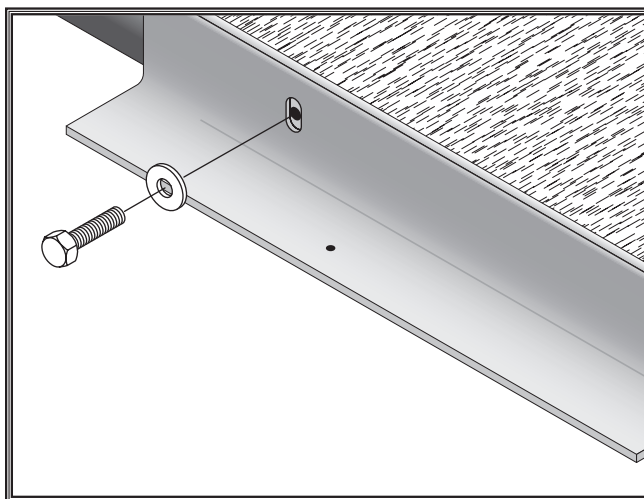

Figure 2. Mounting the front and back rails.
4. Attach the rail using the mounting hardware from the old rail or two 3/8"-16 x 1" or M10-1.5 X 25 hex head bolts and washers. Secure as shown in **Figure 2**.
3. Attach the rail using the mounting hardware from the old rail or two 3/8"-16 x 1" or M10-1.5 X 25 hex head bolts and washers. Secure as shown in **Figure 2**.